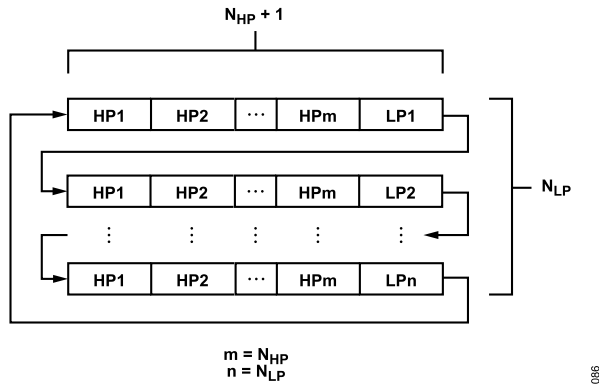

Figure 87. Sequence of HP and LP Channels in Two-Priority Channel Sequence
Figure 87 shows a generalized channel sequence with two priority levels. Channels are grouped into high priority (HP) and low priority (LP) channels. The LP channels are sampled once per sequence, while the HP channels are sampled multiple times per sequence. Alternatively, the channel sequence can be thought of as a grouping of subsequences, where all of the HP channels are sampled once per subsequence, but only one LP channel is sampled per subsequence.